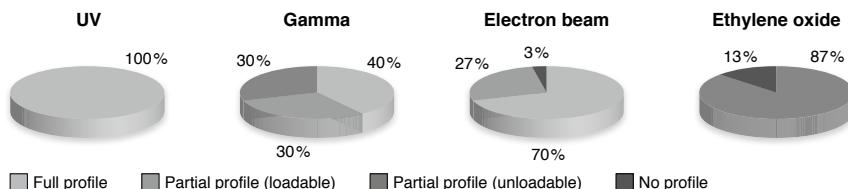

Figure 1: According to Shaw *et al.*, 2008, Comparison of the effects of sterilization techniques on subsequent DNA profiling. Int J Legal Med 122: 29–33.
NucleoSpin® gDNA Clean-up XS is certified as forensic quality product. Consumables used in forensics need to be treated carefully to prevent DNA contamination. MACHEREY-NAGEL therefore has a stringently controlled production process to avoid DNA contamination of consumables. Further, MACHEREY-NAGEL uses ethylene oxide (EO) treatment to remove amplifiable DNA, which might still be introduced during the manufacturing process. MACHEREY-NAGEL products carrying the forensic quality seal, contain plastic materials that are EO treated. This means, DNA of any kind, which might still be introduced into plastic consumables during the production process, is inactivated by means of the treatment with ethylene oxide, in order to prevent the generation of accidental human profile by PCR amplification. Ethylene oxide treatment has been shown to be the method of choice to prevent DNA profiles due to DNA contamination (Shaw *et al.* 2008; Figure 1).